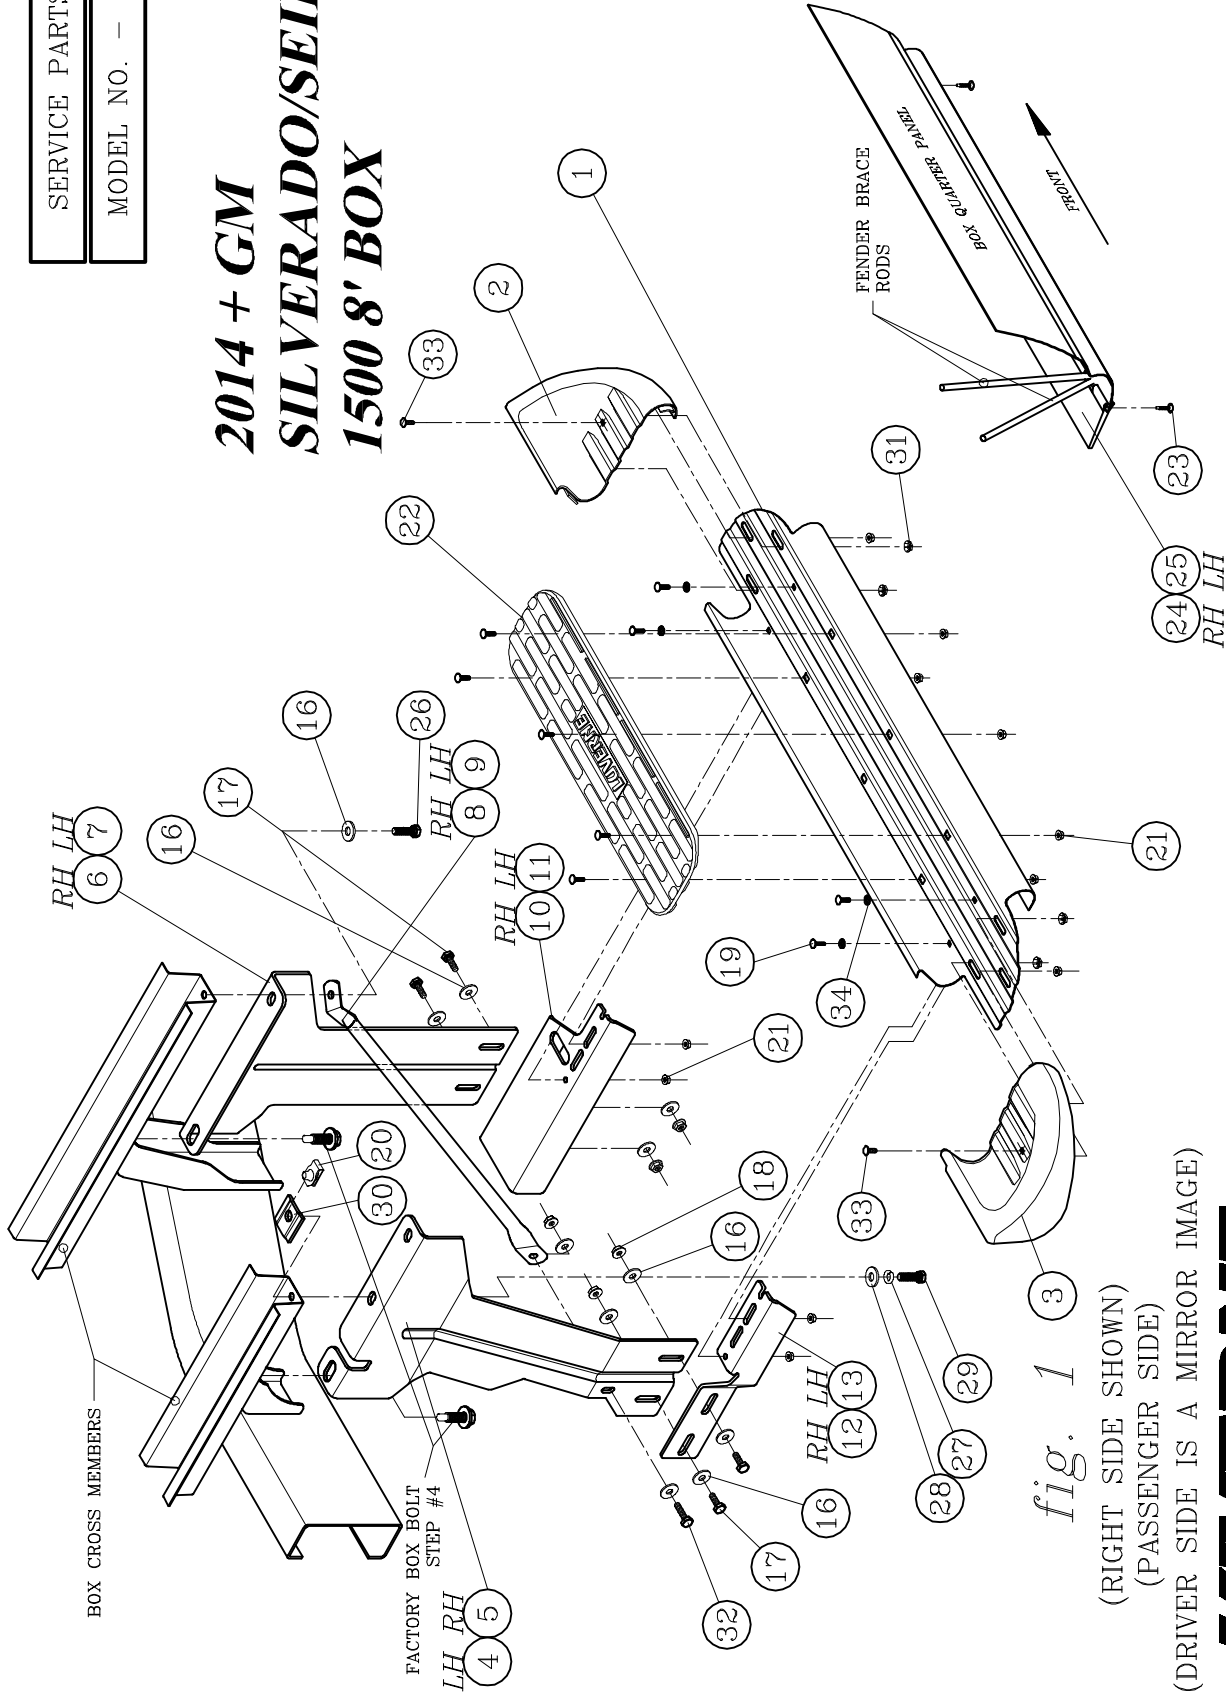
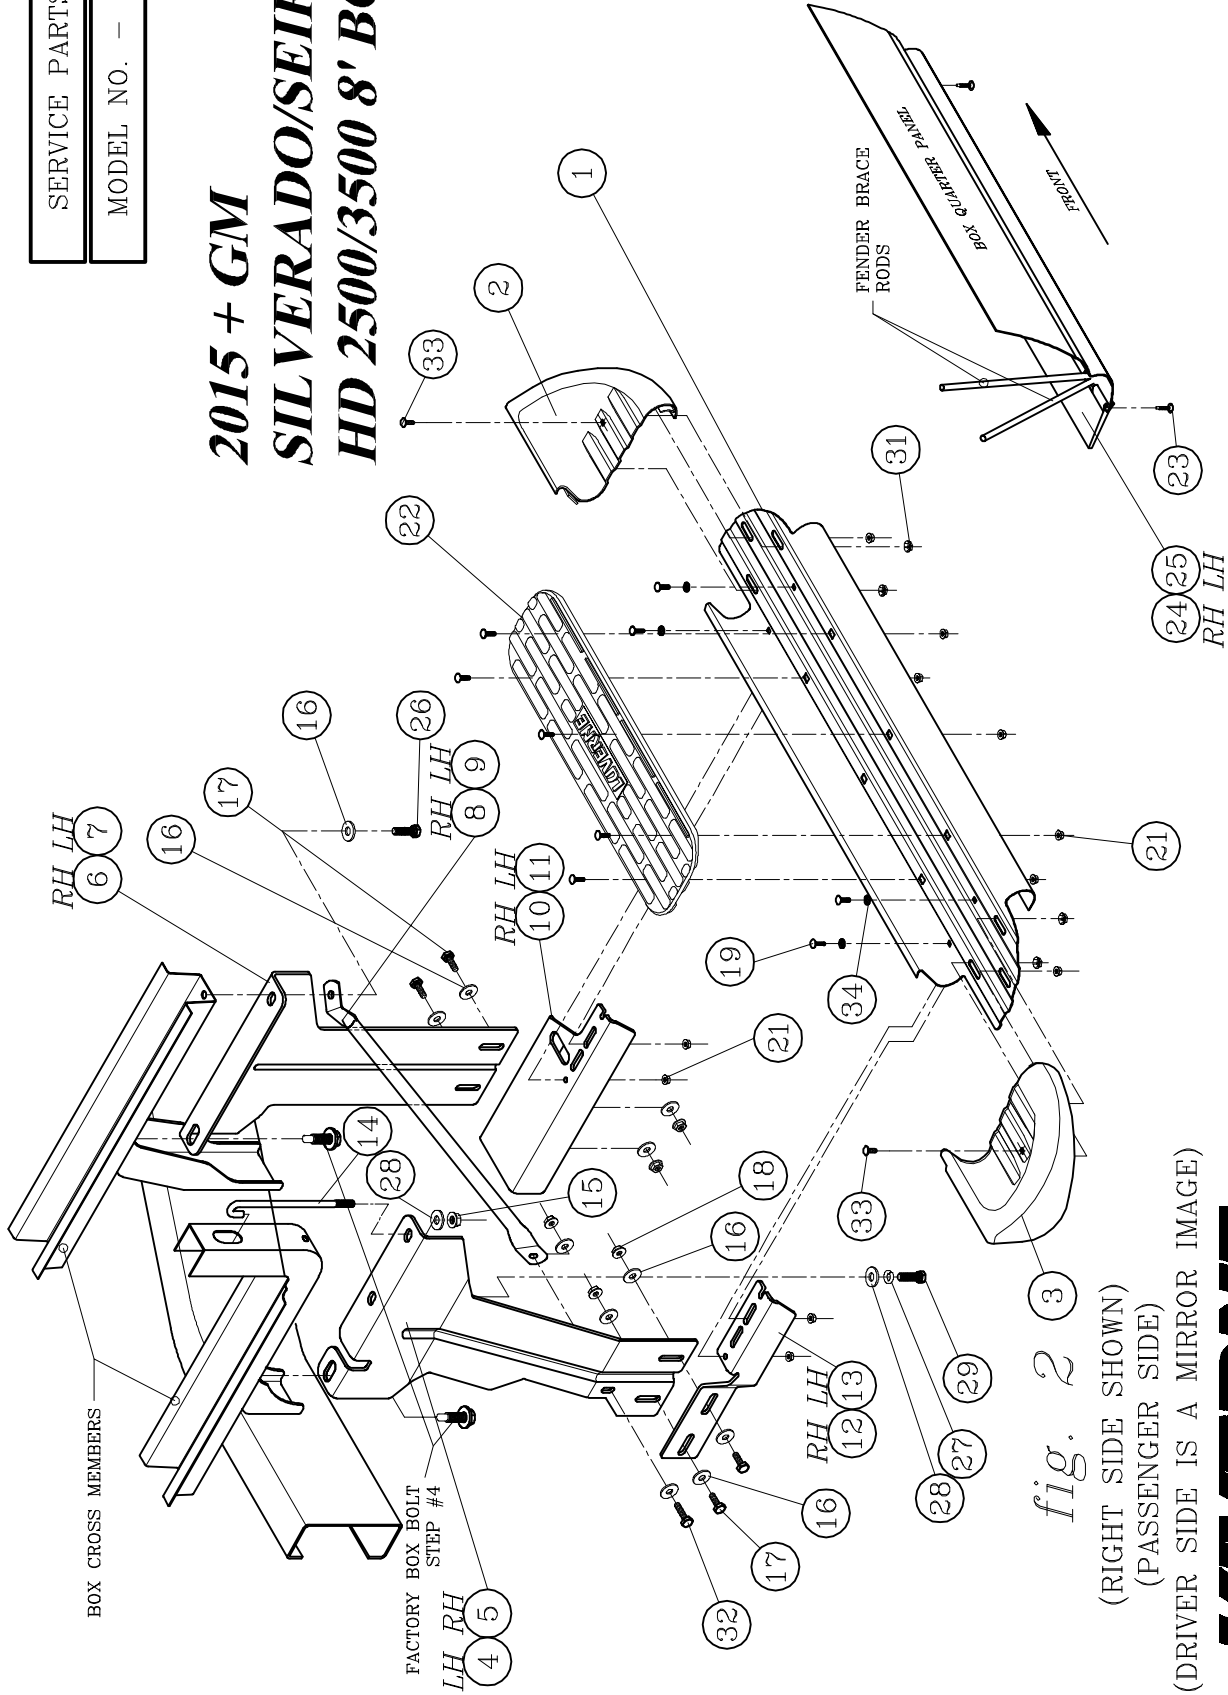

fig. 1 3
fig. 2 3
2. REMOVE THE FRONT TWO (2) FACTORY BOLTS THAT SECURE THE BOX TO THE FRAME. REMOVE THE M8 BOLT ON THE OUTER EDGE OF THE FRONT BOX STIFFENER, THIS BOLT WILL NOT BE REUSED.
4. WITH THE VERTICAL BRACES (ITEM #5, & 6) IN PLACE, REINSTALL THE TWO (2) FACTORY BOLTS THAT ATTACH THE BOX TO THE FRAME IN THE INNER MOST HOLES OF THE VERTICAL BRACES (ITEM #5, 6) AS SHOWN IN **(FIG. 1)** LEAVE THEM FINGER TIGHT AT THIS TIME.
5. INSTALL THE M8 X 25mm SCREW (ITEM #26), FLAT WASHER (ITEM #16), THRU THE STRAIGHT END OF THE TUBULAR BRACE (ITEM #8) AND THRU THE OUTER MOST HOLE OF THE FRONT VERTICAL BRACE (ITEM #6). AS SHOWN IN **(FIG. 1 & FIG. 2)**
2014+ 1500 TRUCKS ONLY (FIG.1)
6. INSTALL THE 3/8" U-NUT (ITEM #20) TO THE NUT PLATE (ITEM #30) AND INSERT IT INTO THE END OF THE SECOND BOX CROSS-MEMBER. INSTALL THE 3/8-16 X 1-1/4" HEX BOLTS (ITEM #29), FLAT WASHER (ITEM #28) AND LOCK WASHERS (ITEM #27) UP THRU THE MIDDLE OBOURD HOLE IN THE REAR VERTICAL BRACE (ITEM #4), AND INTO THE U-NUT (ITEM #31). AS SHOWN IN **(FIG. 1)** LEAVE THESE FASTENERS FINGER TIGHT.
2015+ 2500/3500 HD TRUCKS ONLY (FIG. 2)
7. FOR THE 2015 + HEAVY DUTY MODELS FOLLOW **(FIG. 2)** USE THE 3/8-16 X 7.5" J-BOLT (ITEM #14) 3/8" FLAT WASHER (ITEM #28), AND THE 3/8-16 FLANGE NUT (ITEM #15) HOOK THE J-HOOK INTO THE SLOT ON THE SIDE OF THE SECOND BOX BRACE, USING THE OUTER MOST HOLE OF THE REAR VERTICAL BRACE (ITEM #5) AS SHOWN IN **(FIG. 2)** LEAVE LOOSE UNTIL EVERYTHING ELSE IS INSTALLED, THEN ADJUST AND TIGHTEN.
8. INSTALL THE OUTBOARD BRACKETS (ITEM # 10, 12) USING THE 5/16-18 X 1" HEX BOLTS (ITEM #17) FLAT WASHER (ITEM #16) AND 5/16-18 FLANGE NUT (ITEM #18) TO THE VERTICAL BRACES AS SHOWN IN **(FIG.1 & FIG. 2)** LEAVE FINGER TIGHT AT THIS POINT.
10. INSTALL STEP PLATE ASSEMBLY ON TO OUTBOARD BRACKETS USING THE 10-24 X 3/4" SST CARRIAGE BOLTS (ITEM #19) NEOPRENE WASHER (ITEM #34) SST FLANGE NUTS (ITEM #21) AS SHOWN IN (FIG. 1 & FIG. 2)